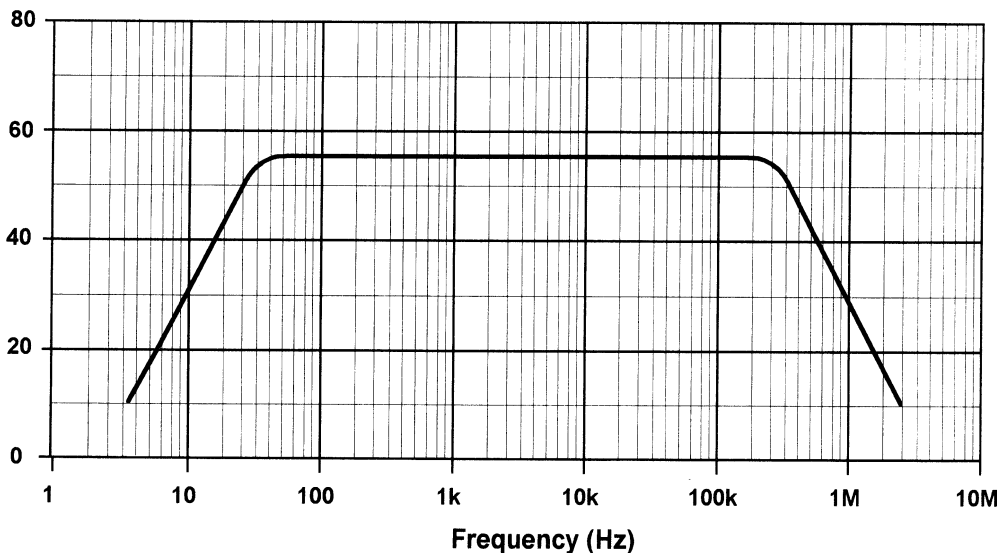

Figure 7.43
- 7.3 Determine the mid-band voltage gain and upper and lower cut-off frequencies for the amplifier whose frequency response curve is shown in Fig. 7.43.